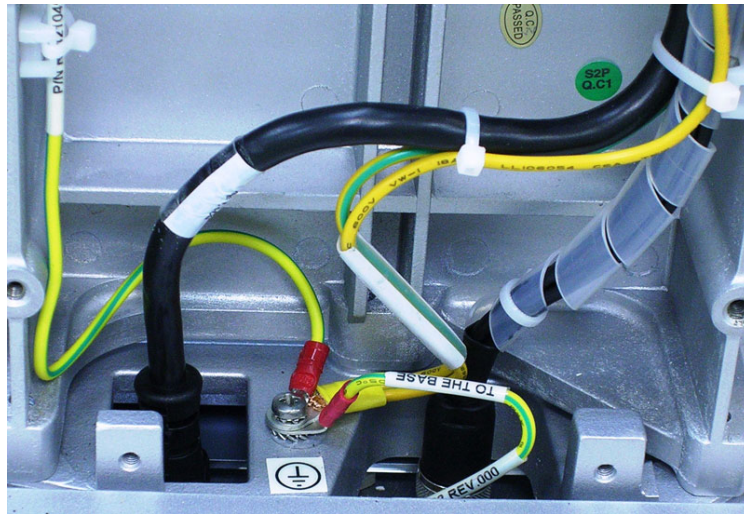

Figure 8-90 Peripheral AC Outlet and Ground Cable Connected
- 8.) Plug the Peripheral AC Outlet cable into the power supply and connect the Ground lead to the body of the cart - Figure 8-90.